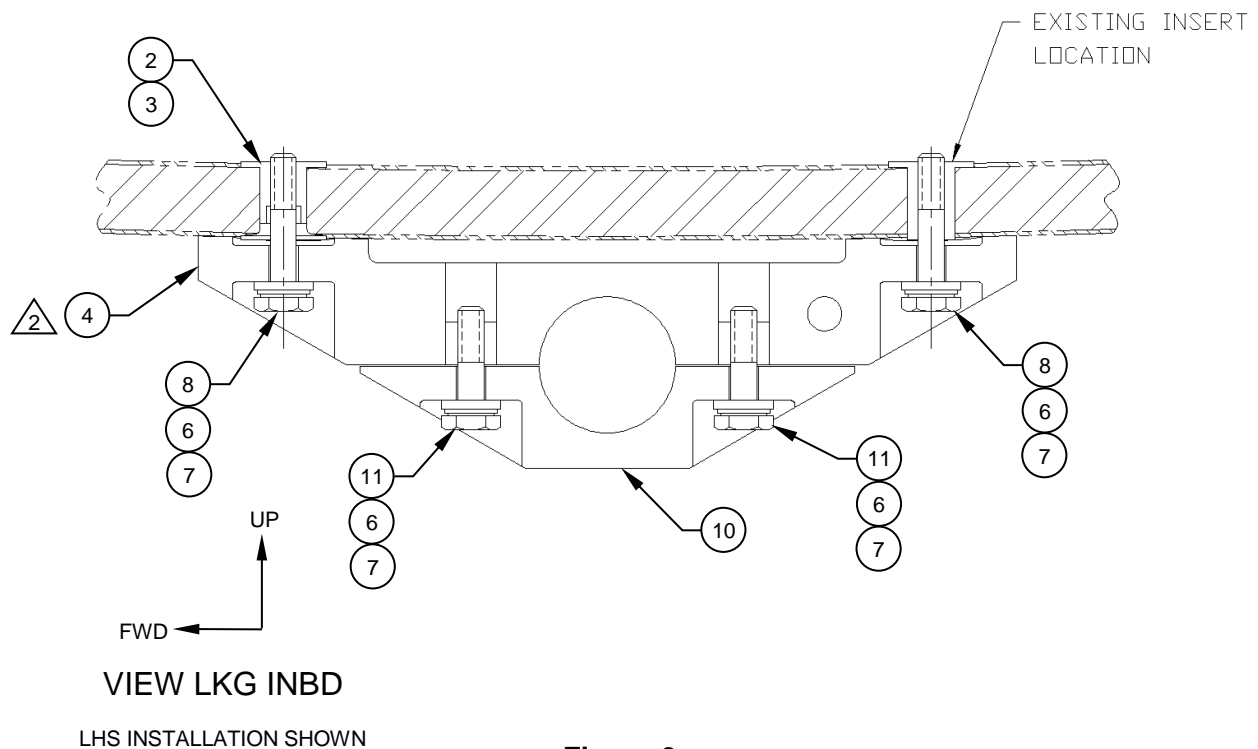

Figure 3
8. Install the supplied fasteners in the Mounting Block, Assys (Items 4 & 5) and add a fillet of Sealant (Item C02) around the edge of each Mounting Block, Assy. Reference Figure 3.
- Loosely attach the Crosstube, Assy (Item 9) to the Mounting Block, Assys (Items 4 & 5) with the Cap, Details (Item 10) and the supplied hardware. Reference Figure 3 & 4.